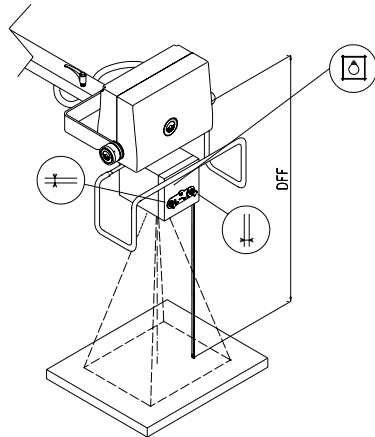

Figure 12
1. On the frontal panel of the collimator, two handles for the beam adjustment (width and length) are present, as well as the button to turn ON the collimator lamp (see Figure 12).